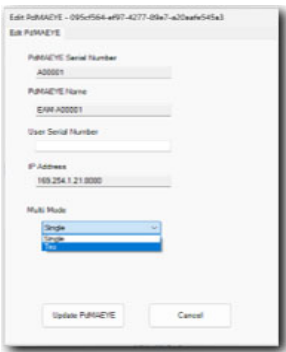

Figure 32: Multi Mode Drop-Down Select Trio
3. Using the Multi Mode drop-down selection, select Trio as shown in Figure 32.